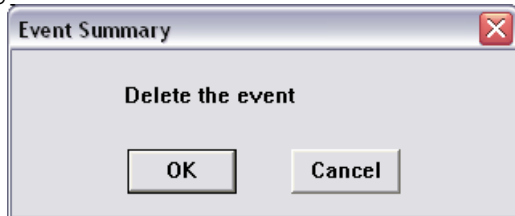

Figure 70: Event Summary – Confirm Deletion
3. Click **OK** (Figure 70). Highlighted events are deleted from the Event Summary.